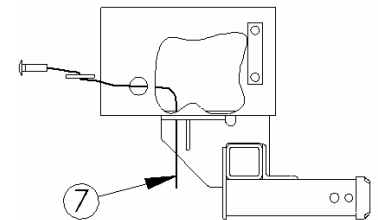

Figure 3
6. Use a pull wire (7) to feed a spacer (4) and carriage bolt (3) into each of the four drilled holes as shown in Figure 3.
7. Fasten the carriage bolts in place with conical washers (5) and hex nuts (6). Tighten all nuts with a torque wrench.